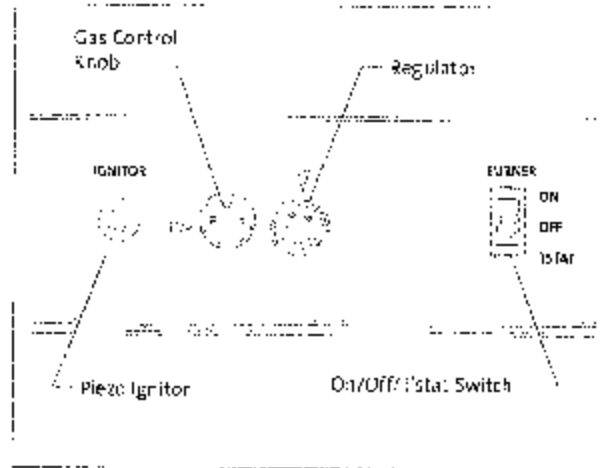

Figure 52. Burner Controls.
2. Install each of the Side castings onto the cabinet by engaging the hanger tabs with the holes in the cabinet frame. See fig. 52 for orientation. You may wish to secure each side panel to the bottom of the fireplace cabinet using the M6 flat head screw already installed at those locations. It will be necessary to remove the Control Door first.